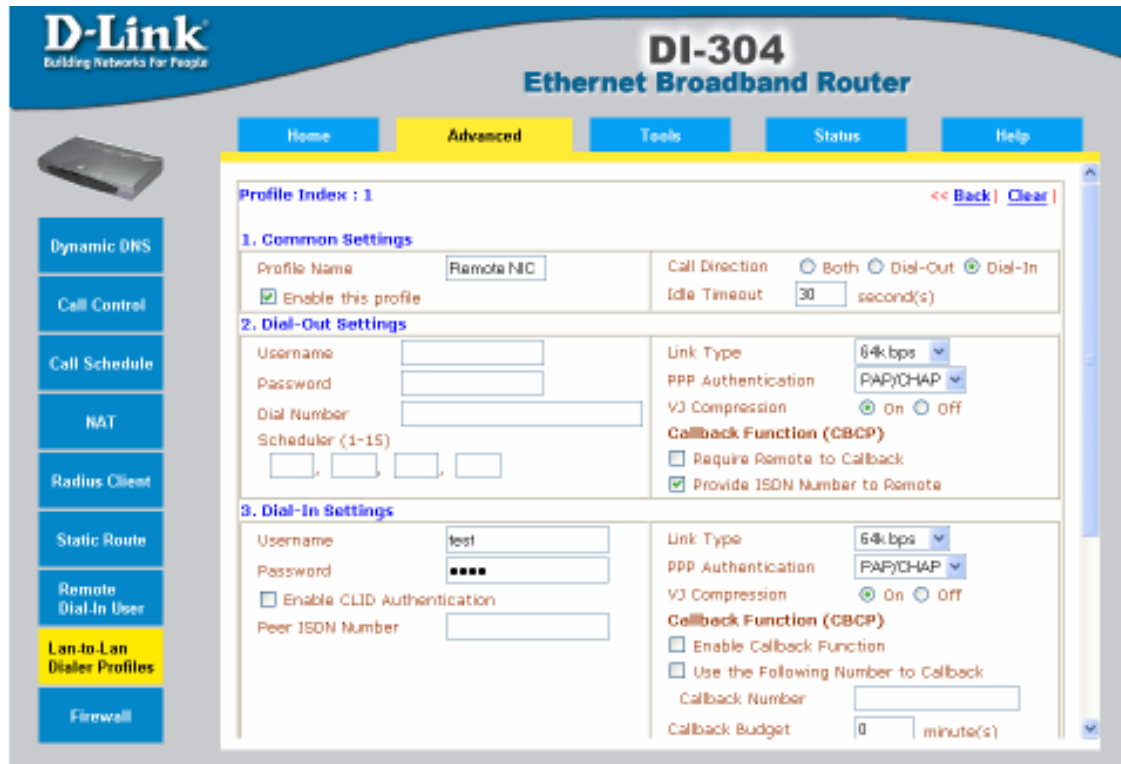

Figure 32: LAN-to-LAN Profile of ISDN Router 2 (1)
- The user name and password settings have to match the settings adjusted in the LAN-to-LAN profile of the local router (Figure 32).